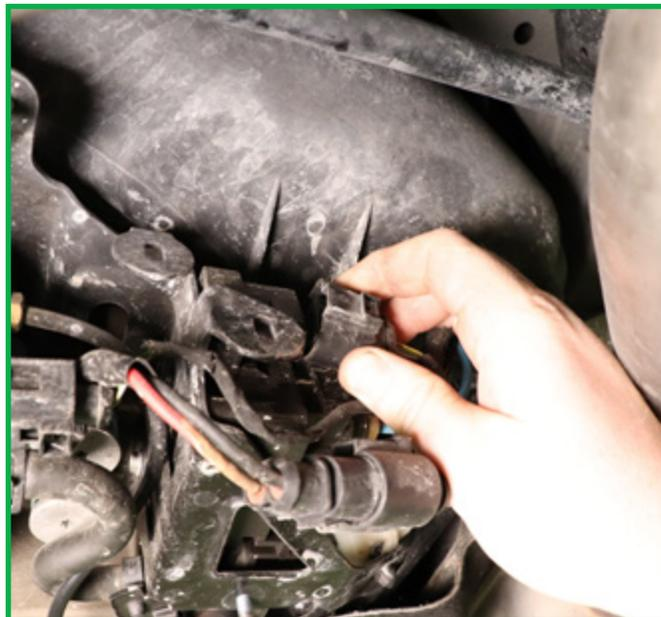

FIGURE 3
3. Disconnect electrical connection. (Figure 3)